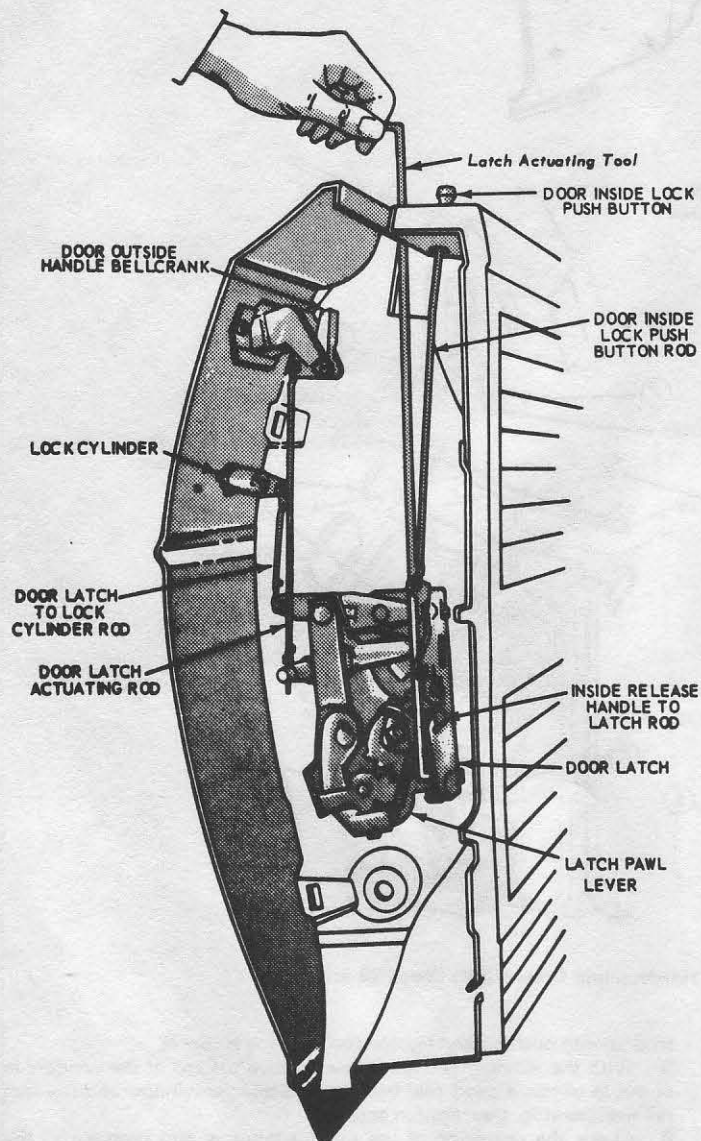

Fig. 12.19 Releasing the door latch pawl lever (Sec 25)
- 2 Lower the window fully and insert the rod in the glass opening at the rear edge of the door and engage the latch pawl lever, as shown in Fig. 12.19; then press down on the latch pawl lever to open the door.